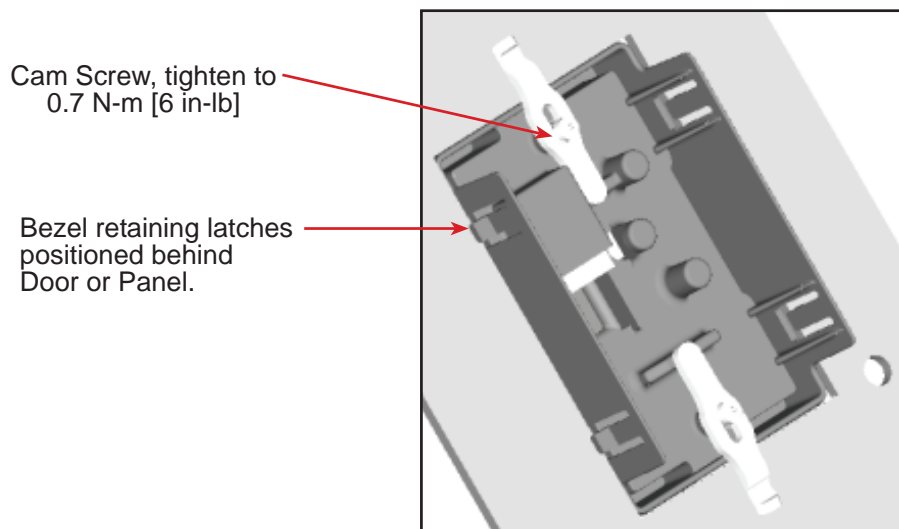

Figure 5.
11. Insert the door bezel with CIM or DIM into the door or panel-mounting hole. Rotate the bezel cams and extend past the door or panel mounting edge and tighten the cam screws to 0,7N-m [6 in-lb]. See Figure 5.